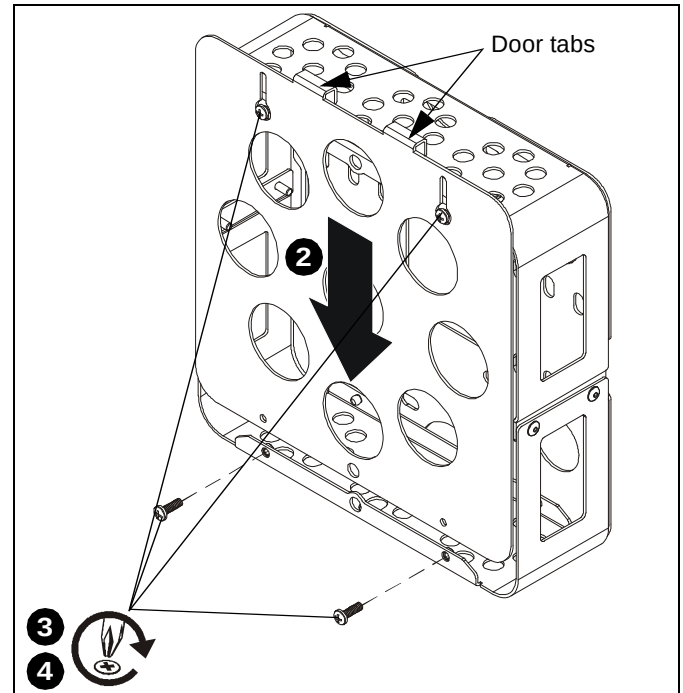

Figure 9
1. Remove back cover from back of ceiling mount. (See Figure 9)
2. Replace enclosure door on front of the FCA510/FCA515 by inserting door tabs into top of enclosure and lowering top of door over loosened Phillips screws. (See Figure 9)
3. Install two Phillips screws removed in Step 1 through lower part of door and into the enclosure base. (See Figure 9)